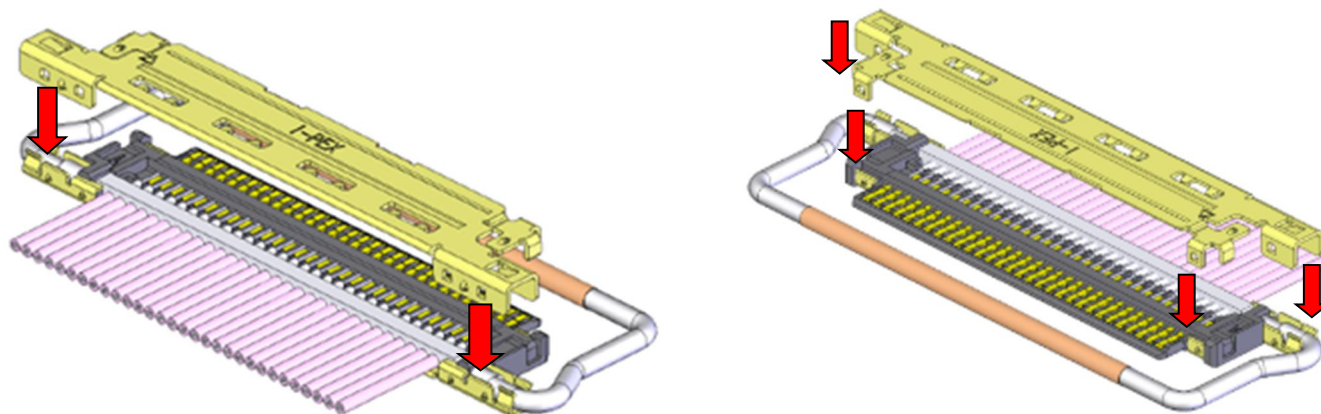

Fig.6 Assembly of Shell-A
① As show in Figure 6, shell-A is assembled from the upper side of housing assembly.